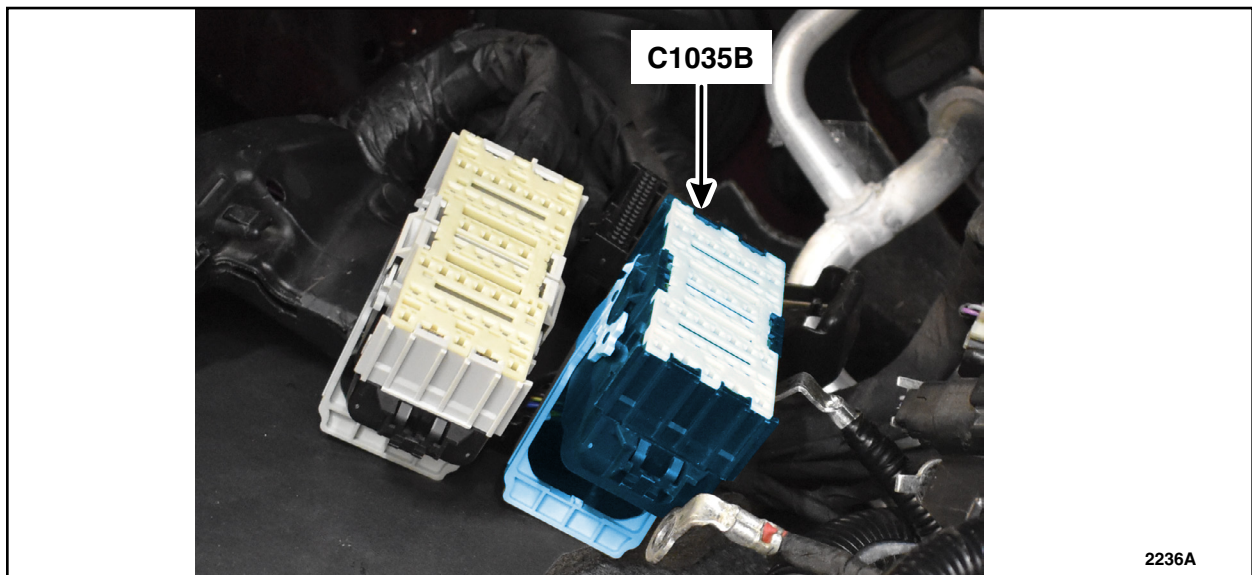

FIGURE 14
16. Locate the black 50-way connector (C1035B). See Figure 14.